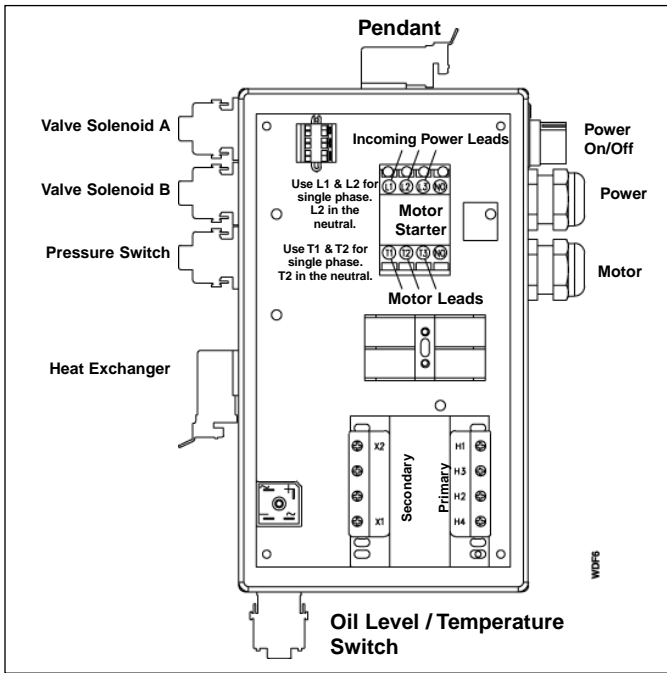

Figure 4, Wiring Diagram
The heat exchanger, pressure switch, pendant, solenoids (A) and (B) are supplied with connectors that plug into the proper plug-ins found on the electrical enclosure (Figure 4). The foot switch plugs into the pendant receptacle.